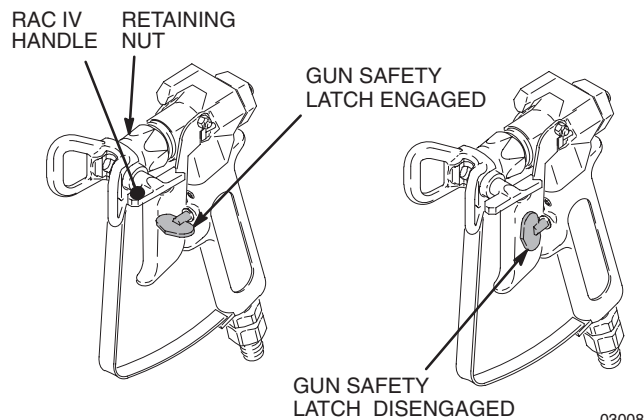

Fig. 5
- a. Open (handle down) pressure drain valve (G). If no secondary hose is installed, be sure secondary outlet cap is installed. Turn ON/OFF (L) switch ON. Slowly turn pressure adjusting knob clockwise until sprayer starts. When fluid comes from drain hose, close pressure drain valve (handle forward).
- b. Fig. 5. Disengage gun safety latch. Following warning, above, trigger gun until all air is forced out of system and paint flows freely from gun.
6. Fig. 5. Engage gun safety latch. Install spray tip. Install tip guard. See manual 308644, supplied.
- c. Test spray pattern. To adjust pattern, engage gun safety latch, loosen retaining nut. Position tip guard horizontally for horizontal pattern or vertically for vertical pattern. Then tighten retaining nut. Fig. 5.
3. If spray tip clogs, release gun trigger, engage gun safety latch, and rotate RAC IV handle 180°. See Fig. 5.